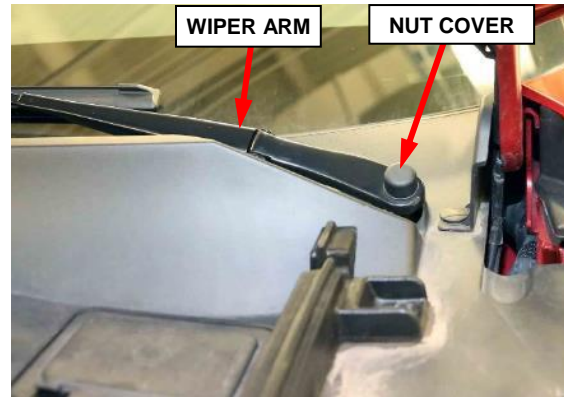

Figure 2 – Wiper Arm Nut Cover
4. Remove the nut cover at the base of the windshield wiper arm, repeat for the opposite side (Figure 2).
18. Install the nut cover at the base of the windshield wiper arm, repeat for the opposite side (Figure 2).